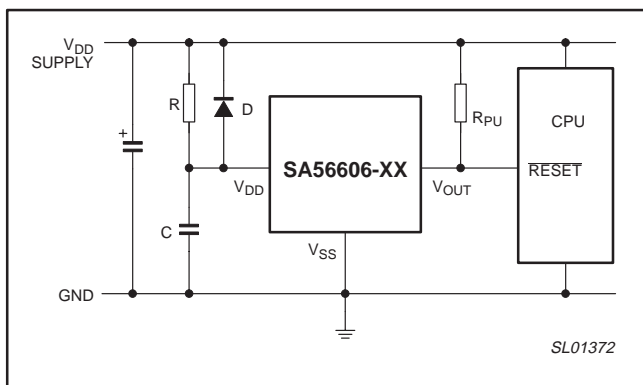

Figure 15. Power ON reset circuit.
The Power ON Reset Circuit shown in Figure 15 is an example of how to obtain a stable reset condition upon power-up. If the power supply voltage rises abruptly, the $\overline{\text{RESET}}$ may go HIGH momentarily when V_{DD} is below the minimum operating voltage (0.95 V). To overcome this, a resistor (R) is placed between positive supply and the V_{DD} pin with a capacitor from the V_{DD} pin to ground.